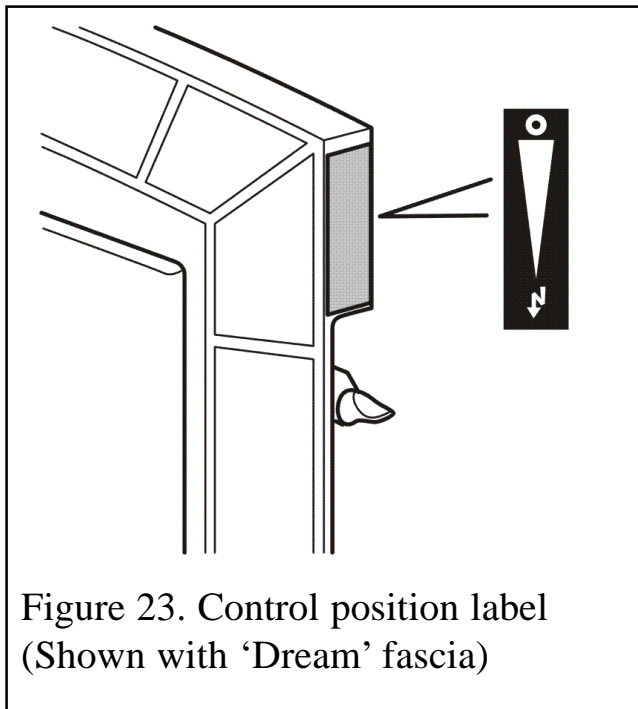

Figure 23. Control position label
1. Supplied with the fire is a self adhesive control position label. Peel the backing from the label and place as in figure 23.